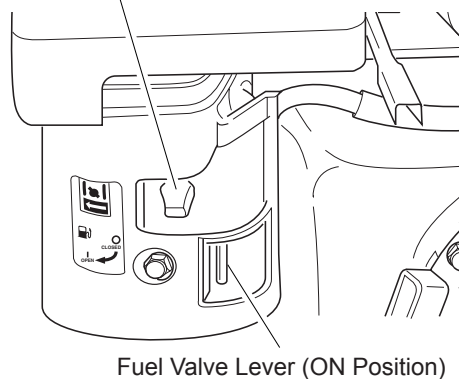
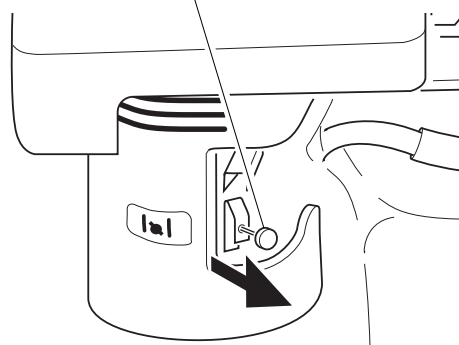

Figure 10 - Fuel Valve Lever On, Choke Lever Closed (Model MGR4500I Shown)
Figure 11 - Choke Lever Closed (Model MGR6000I Shown)
2. Move fuel valve lever to the ON position except on Model MGR6000I (see Figure 10).
3. Move choke lever fully to the left for all models except MGR6000I (see Figure 10). Pull choke button out for Model MGR6000I (see Figure 11). This closes the choke.